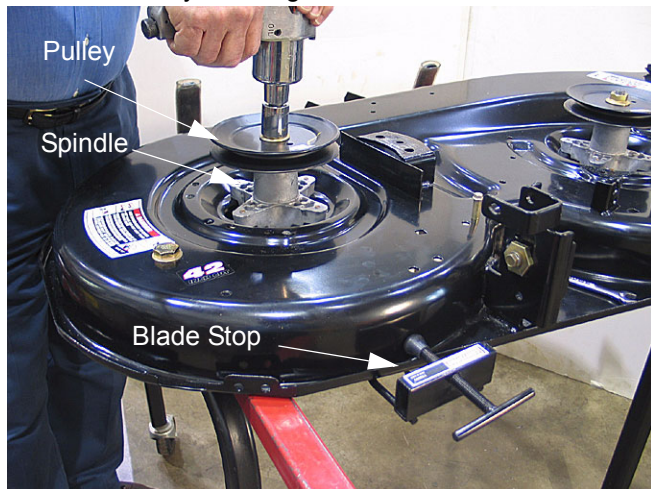

Figure 15
- 5.4. Using an impact wrench and a 15/16" socket remove the pulley and blade from the spindle assembly. See Figure 15.